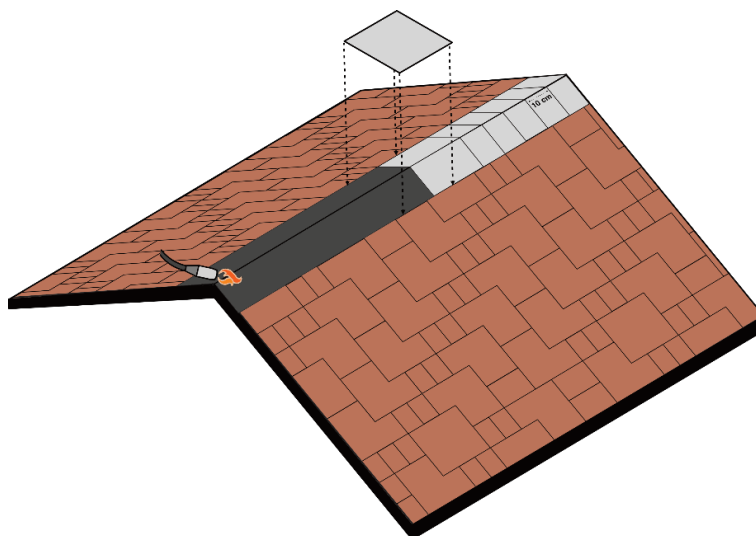

Fig. 19 – Installazione elementi colmo a fiamma
- Apply a band of bituminous membrane Safety EPP on the ridge by torch – Fig. 19.
- Proceed with the installation of the other ridge elements in sequence, leaving an exposed part of 10 cm between one element and the next, see Fig. 19.